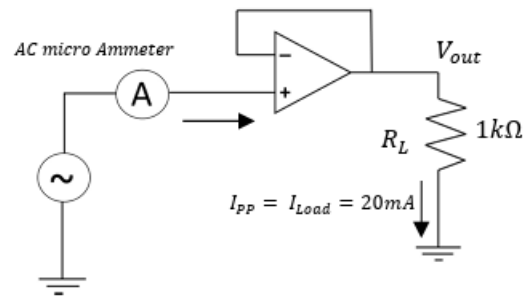

FIGURE 1(b)
1. Apply a 1 kHz sinusoidal signal to the 1k load shown in Figure 1(a)